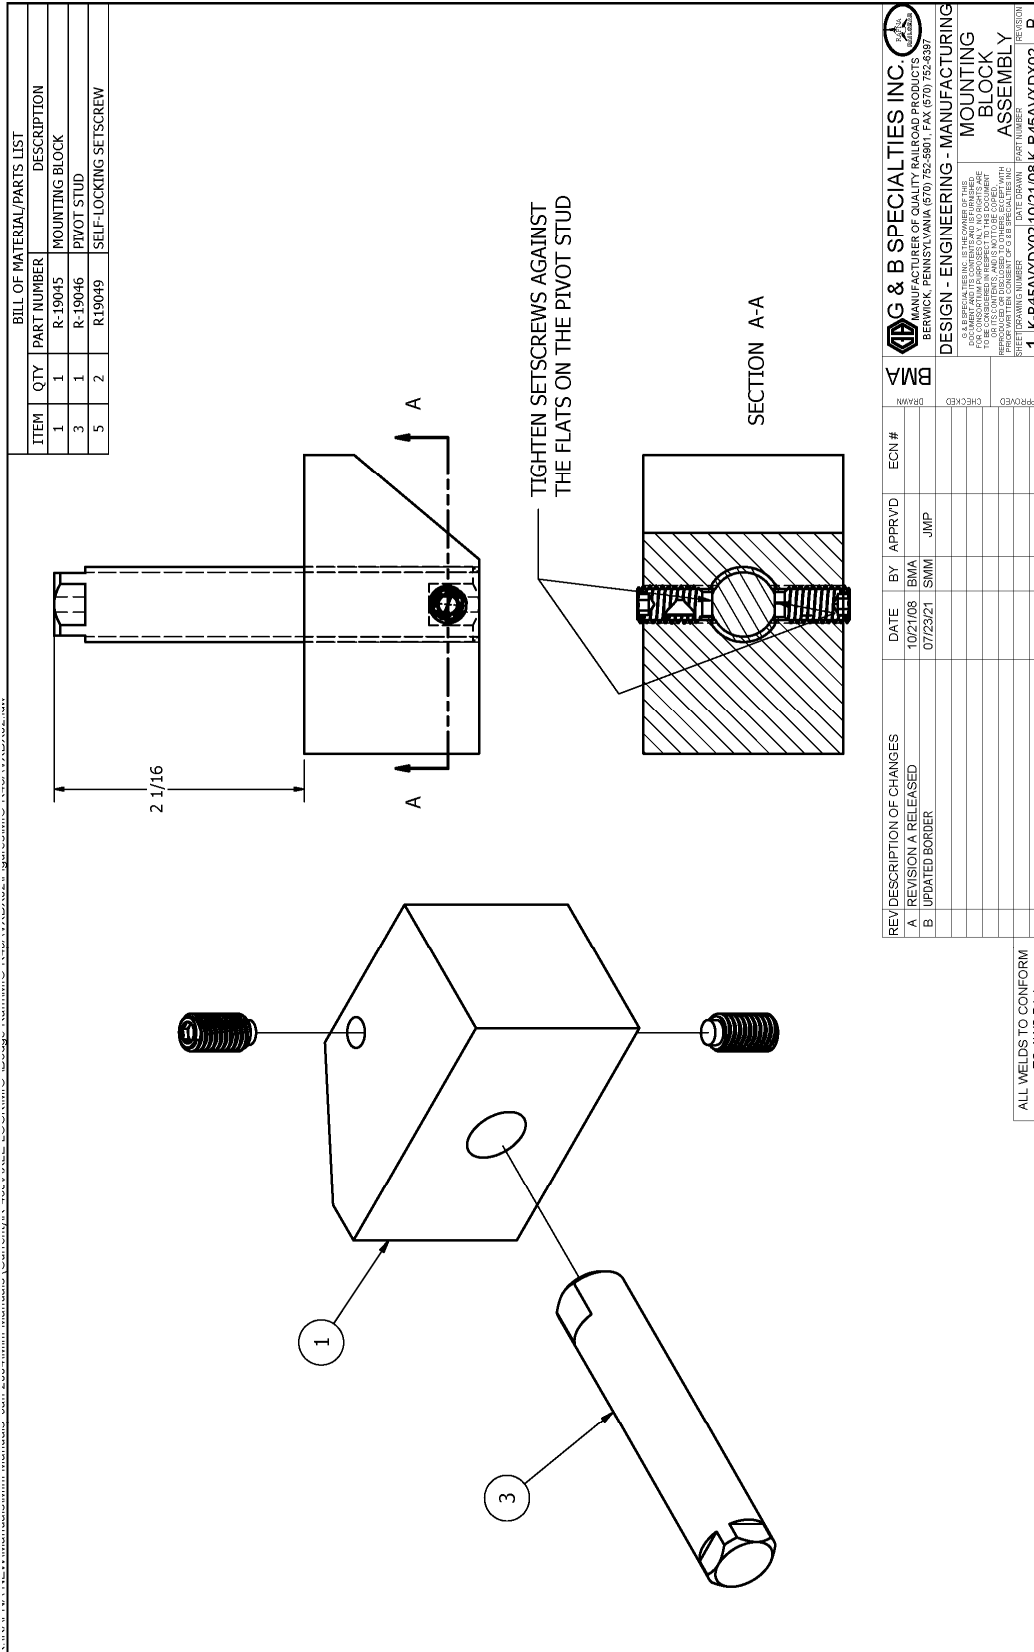

Figure 4
4. Bench assemble the mounting block, pivot stud, and self-locking setscrews making sure the setscrews fasten tight against the flats on the pivot stud as shown in Figure 4.